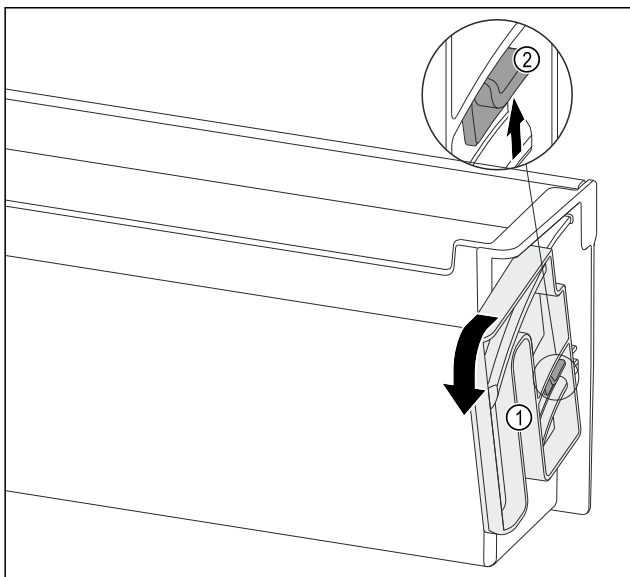

Fig. 144
- Turn the swivel unit Fig. 144 (1) in the specified direction as far as it goes.
- Push the tab Fig. 144 (2) up and remove the swivel unit Fig. 144 (1).